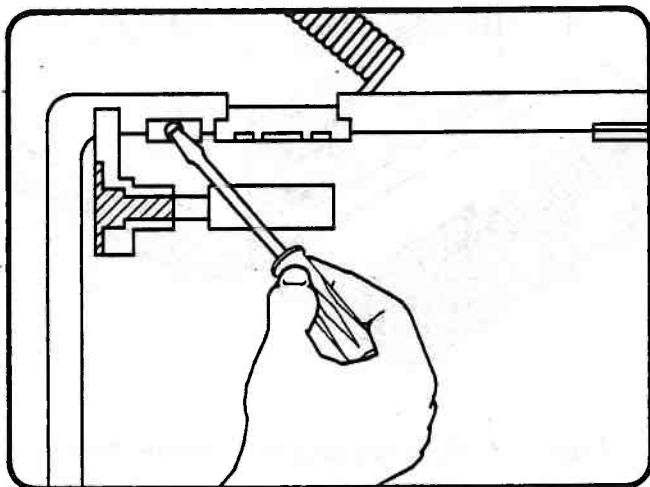

Figure 3-55. Unlocking Latches on the Keyboard
3. Release the latch nearest the Keyboard cable with a small screwdriver while spreading apart the top and bottom halves of the Keyboard. Proceed clockwise until all the latches have been released (Figure 3-55).